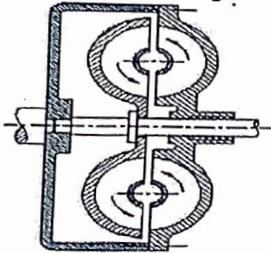

Figure 5
14. Identify the component in figure 5